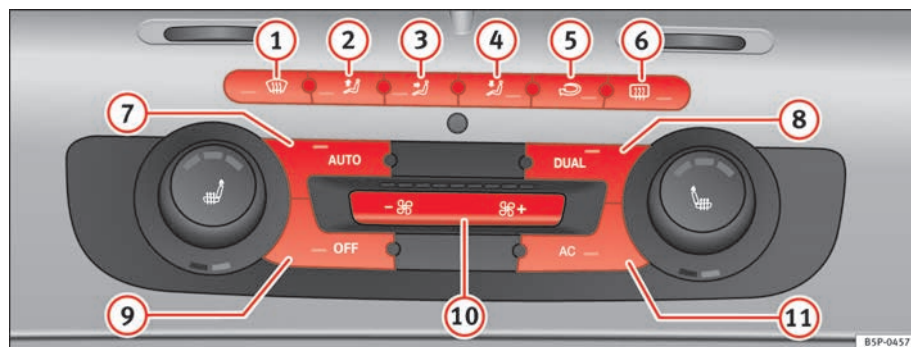

Fig. 132 On the instrument panel: 2C Climatronic controls.
- To enter manual mode, press one of the buttons ⇒ fig. 132 ① to ⑤ or press the air flow control ⑩. The selected function is shown on the radio or navigator display.
- Press the button  ⇒ page 160, fig. 132  to switch air recirculation mode on or off. It is switched on if the following symbol appears in the display .